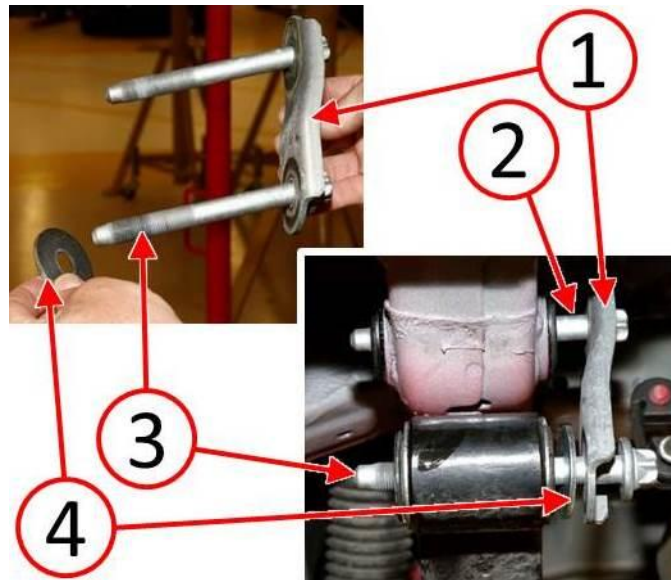

Fig. 14 Assemble Inner Shackle Half
17. Assemble the NEW shackle bolts (2,3) to the shackle plate (1) as shown in (Fig. 14).
NOTE: Flared-outward (wide) end of the shackle plate (1) MUST point up toward the vehicle frame and flared-inward (narrow) end of the shackle plate (1) MUST point down toward the spring as shown in (Fig. 14).
18. Install the NEW spacer washer (4) onto the lower shackle bolt (3) as shown in (Fig. 14).
19. Install the shackle assembly to the vehicle while ensuring that the spacer washer (4) is positioned between the lower end of the shackle plate (1) and the suspension spring as shown in (Fig. 14).